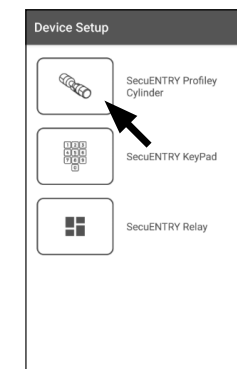

Fig. 8
- 5 Use the selection menu displayed and tap on "secuENTRY Profily Cylinder" to setup your secuENTRY cylinder (Fig. 8).